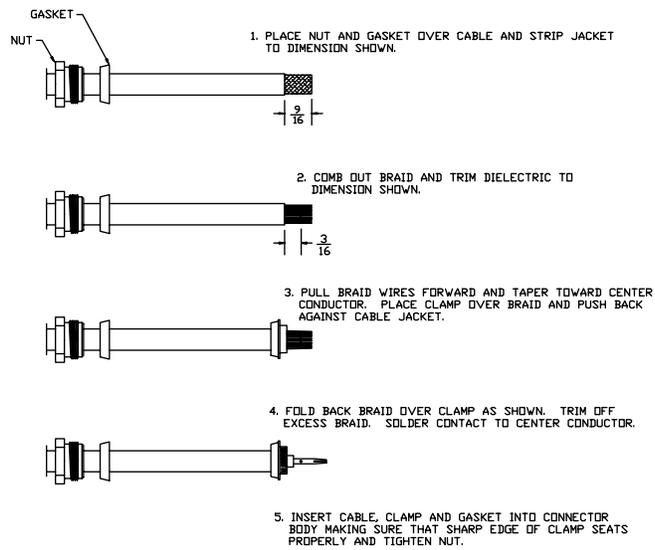

FIGURE 3-2 COAX CABLE INSTALLATION
B. Trim the supplied RG-59/U cable to the desired length and install the BNC connector (330-00017-00) per the cabling instructions on Figure 3-2.